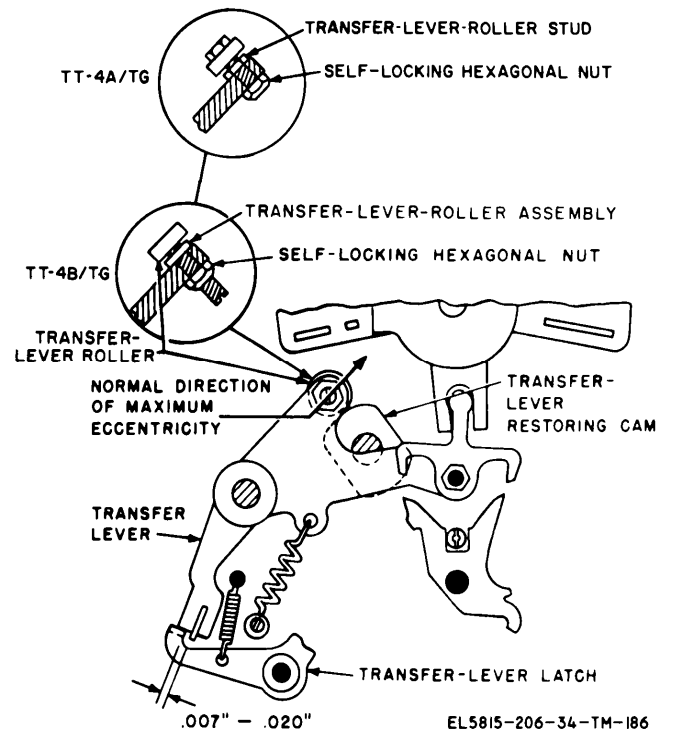

Figure 3-114. Transfer-lever roller stud adjustment.
*b. Adjustment.* Position the Y-levers for either R or Y code combination and pull the transfer-lever latch downward (fig. 3-114). Turn the motor by hand until the locking-bail spring pulls the code-ring locking bail against the code rings. Loosen the mounting screws and position the code-ring locking bail until the requirement is met. Tighten the mounting screws and recheck the clearances.
(fig. 3-114)